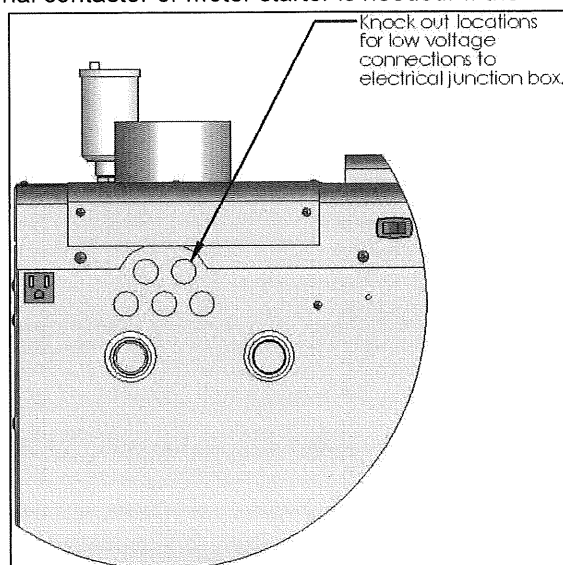

Figure 25 – Knockout Locations
1. All low voltage cables should enter the electrical junction box through the provided knock out holes as shown in Figure 25.